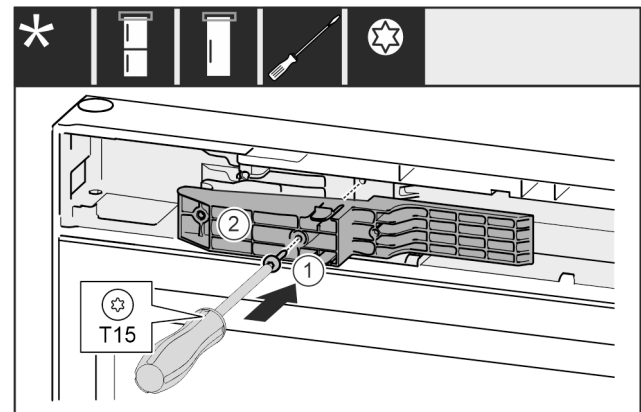

Fig. 54 \*
- ▶ Insert the adapter piece Fig. 54 (1) on the handle side into the recess.\*
- ▶ Tighten the screw Fig. 54 (2) with the screwdriver.\*